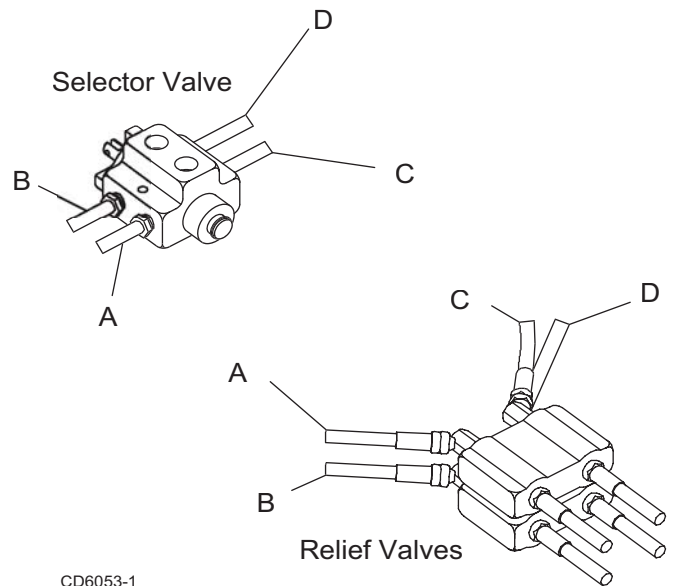

Figure 27. Selector Valve Hose Connections
4. Attach selector valve and bracket assembly to the A-Frame. Secure in place using two carriage bolts (25), flat washers (28), and lock nuts (29).
5. Install four adapter fittings (3) in the side ports of the selector valve (2).
6. Install four 26" hoses (5) between adapter fittings (3) in side ports of the selector valve (2) and the relief valve (11). See Figure 27 for hose connections.
7. Install two elbows (4) into the top ports of the selector valve.
8. Install two 66" hoses (9) into elbows (4) on the top of the selector valve.